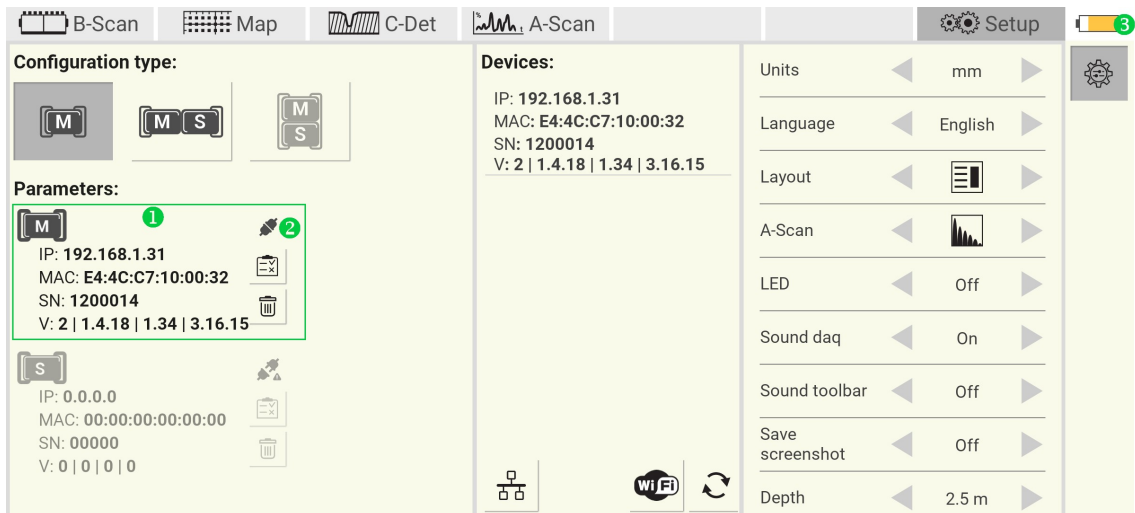

Figure 22: A1040 MIRA 3D connection
After successful connection the panel ① shows parameters of the master device. The indicator ② changes from  to . The battery indicator ③ changes its status from disconnected  to power, Figure 22.